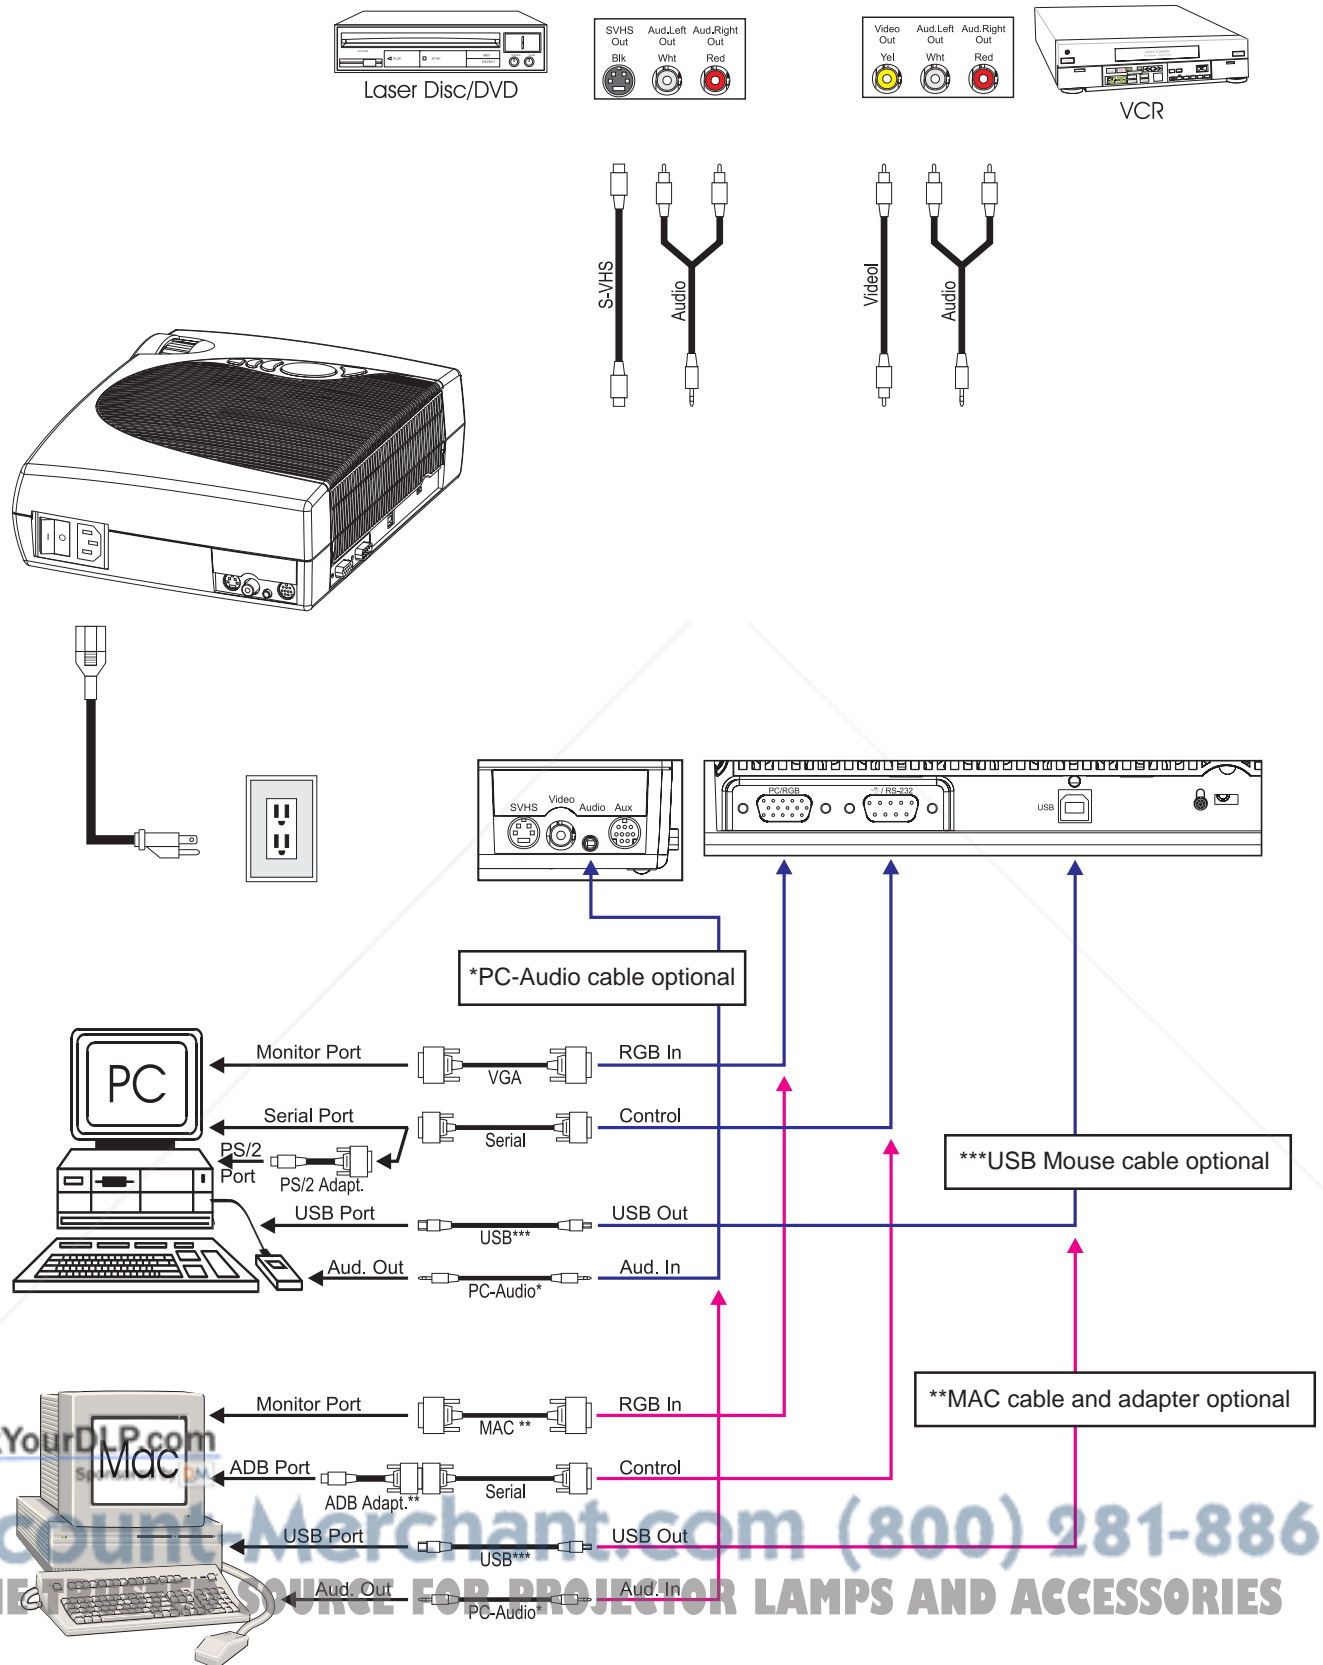

Figure 3-3. Cable Connections
**Main Menu:** Press the **Menu** button on the operator touch panel keypad (Figure 3-3) or the remote control keypad (Figure 5-1) to display the Main Menu.